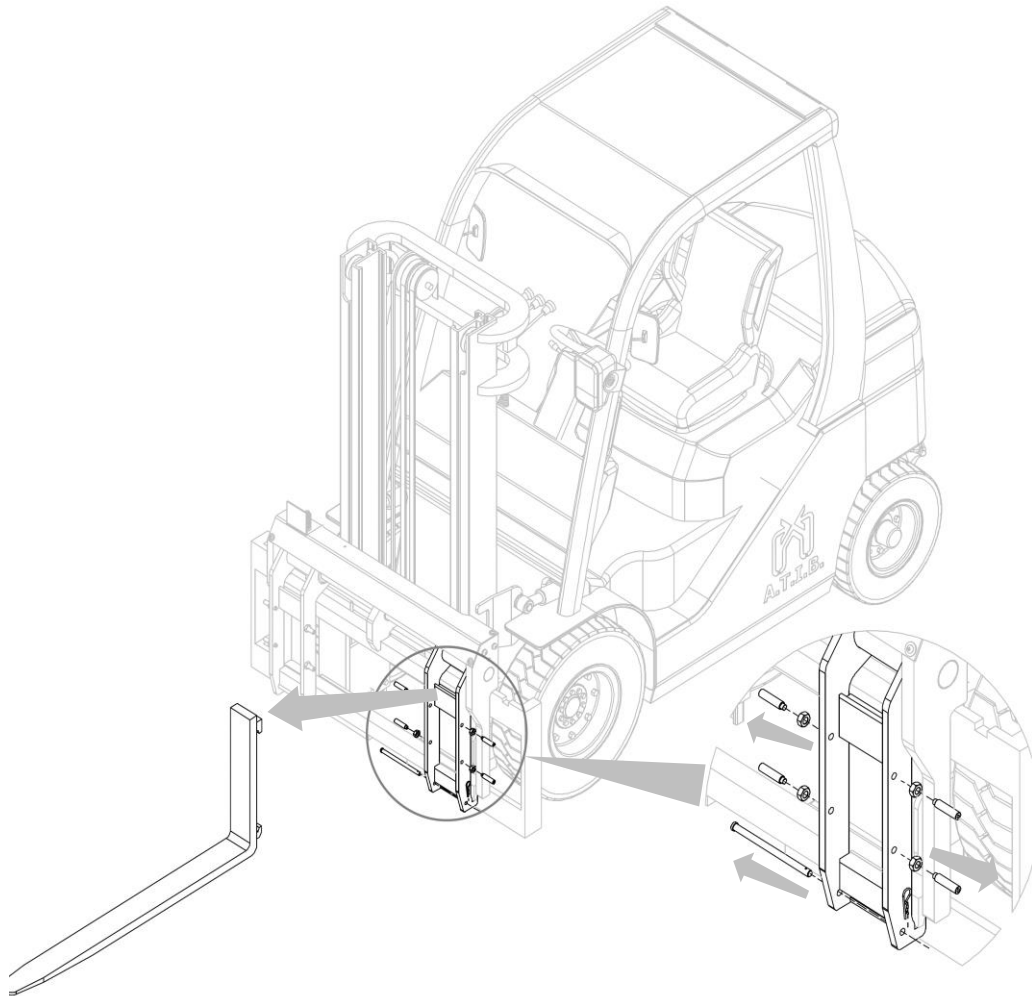

Figure 19
2. Remove the forks after unscrewing the fork stops and removing the lower pins (see *Figure 19*).